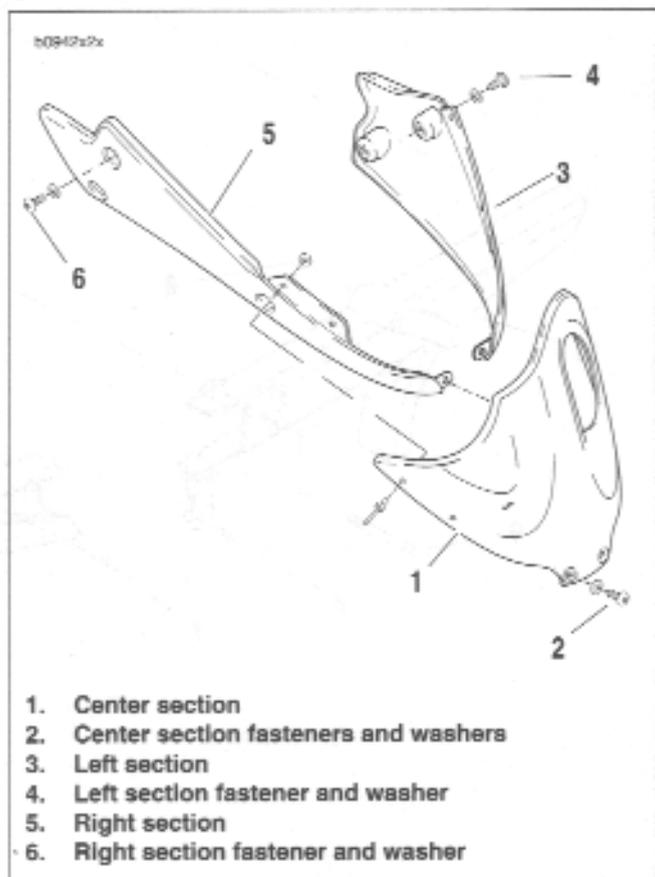

Figure 2-106. Chin Fairing Assembly
3. See Figure 2-106. Remove center section fasteners and washers (2).
4. Remove left section fasteners and washers (4) and remove left section (3).
6. Remove right section fasteners and washers (6) and remove right section (5).
1. See Figure 2-106. Position right section (5) and install with right section fasteners and washers (6).
2. Position left section (3) and install with left section fasteners and washers (4).
4. Position center section (1) and install with center section fasteners and washers (2). Use LOCTITE 272 on all fasteners tightening to 36-48 in-lbs (4-5 Nm).